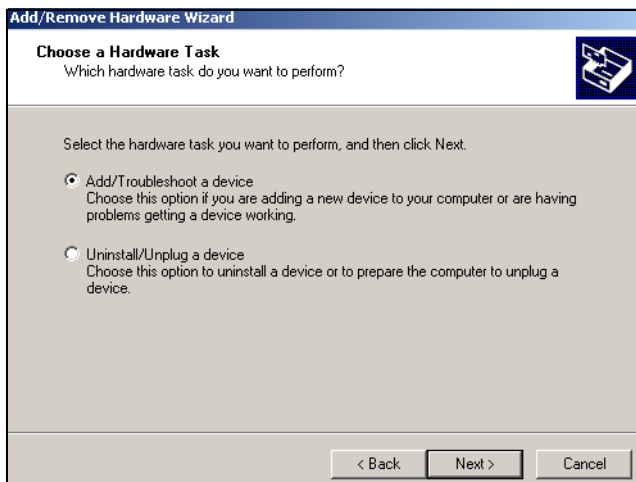

Figure 7-20 *Install the TAOS ITP control panel and driver.*
16. Select **Add/Troubleshoot a device** and click **Next** (Figure 7-20).